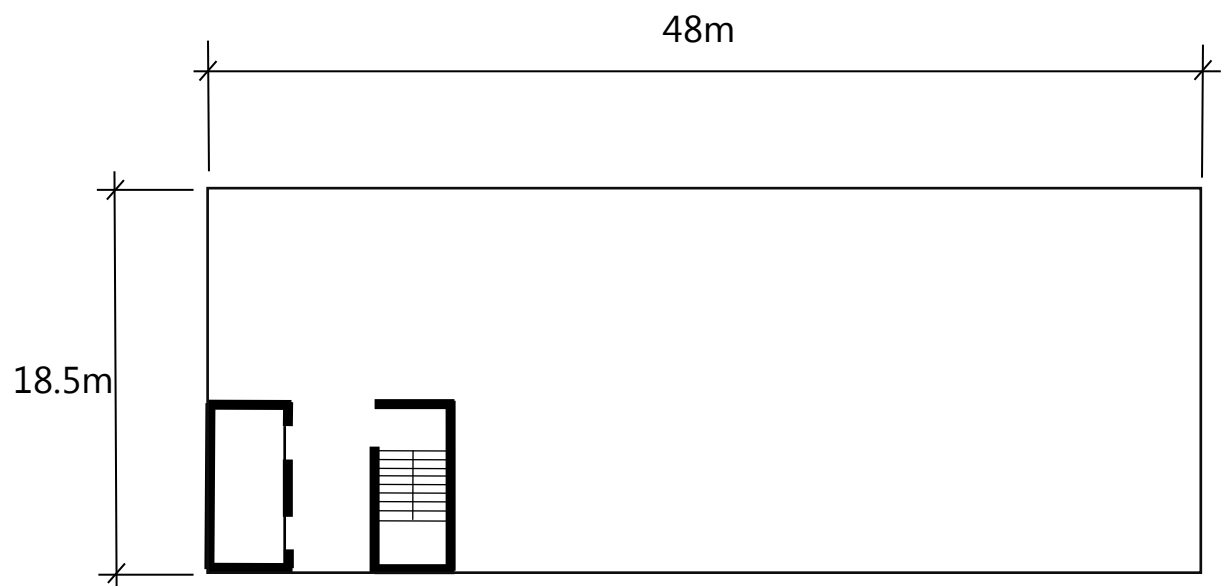

Figure Q2-2
- (d) The vertical elements supporting the hotel floors are to be transferred at 2nd Storey due to planning requirements at the 1st Storey. The outline of the 2nd Storey plan is shown in Figure Q2-2. Only twelve (12) circular columns are permitted at 1st Storey to support the transfer structure. The lift and stair cores go down to the foundation.